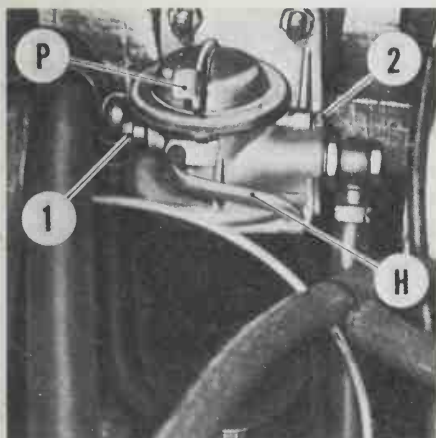

Fig. P1-6—View of fuel filter used on models equipped with Bosch fuel injection pump.
To bleed fuel system on engines equipped with Bosch injection pump, open fuel tank valve and open bleed screw (1—Fig. P1-6). Operate filter pump handle (P) until air-free fuel is discharged from hose (H), then close bleed screw (1). Open screw (2) and operate pump handle until resistance is felt, then close screw. Loosen injection pump inlet fitting and allow fuel to flow until air is expelled then tighten fitting. Loosen fuel injection lines at injectors. With throttle open, rotate engine until air-free fuel flows from injection lines, then reconnect lines.